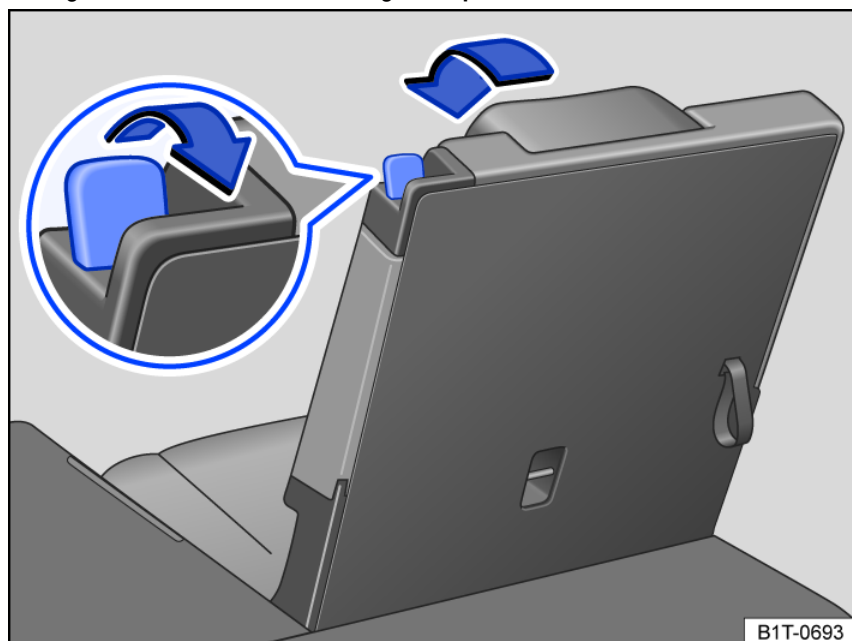

Fig. 81 Third row seat: folding the rear seat into the cargo floor position.
- Pull the release lever *fig. 81* all the way back to release the rear seat backrest.
- A red marking on the release lever *fig. 81* indicates that the rear seat backrest is not latched. The red marking must not be visible when the backrest is latched.